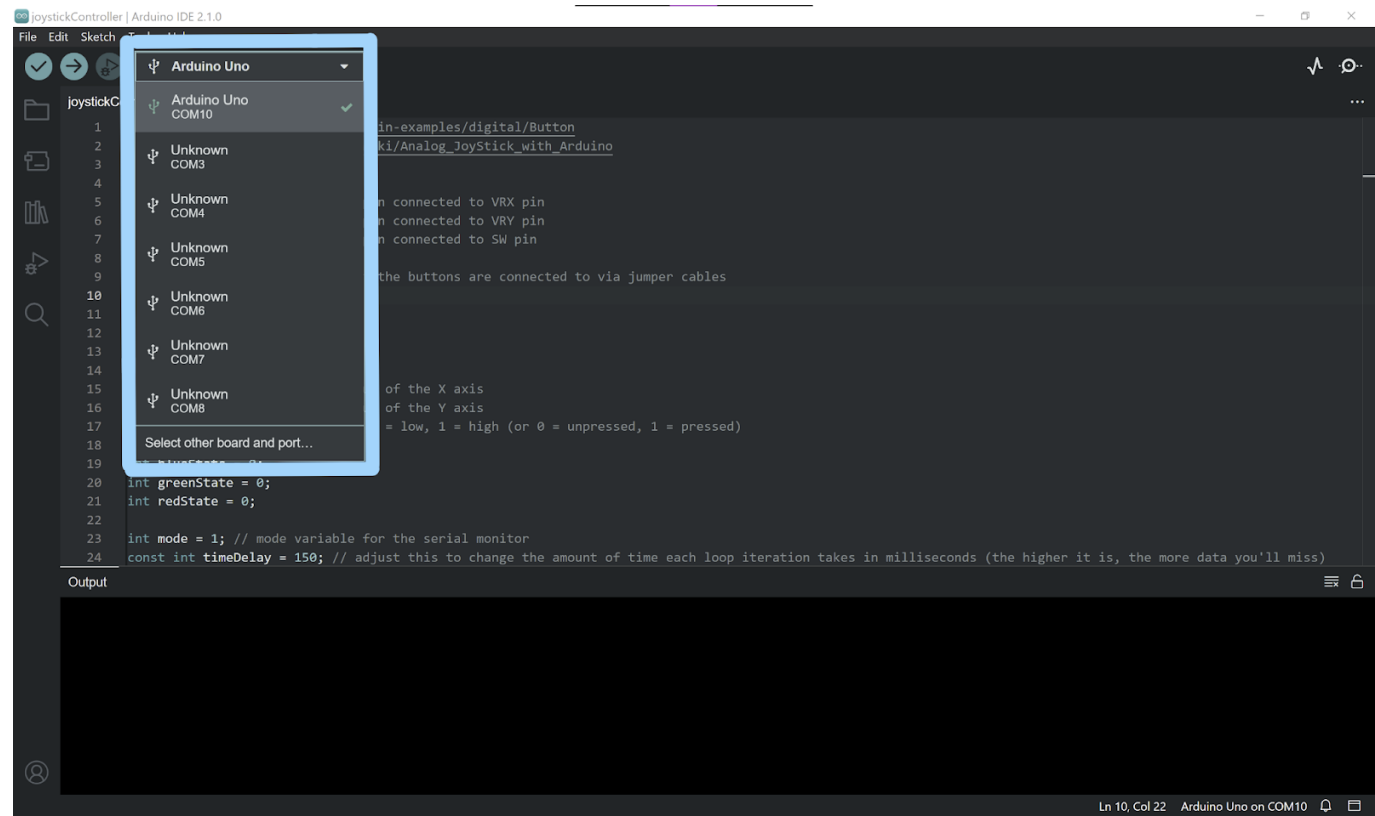

Figure 1: Getting the computer to recognize the board
- Open the IDE and check that the board selected in the upper left is the board you're using (it should automatically detect the COM port that it's using, you'll need that for a line in the Python controller file). *Refer to figure 1 for help.*